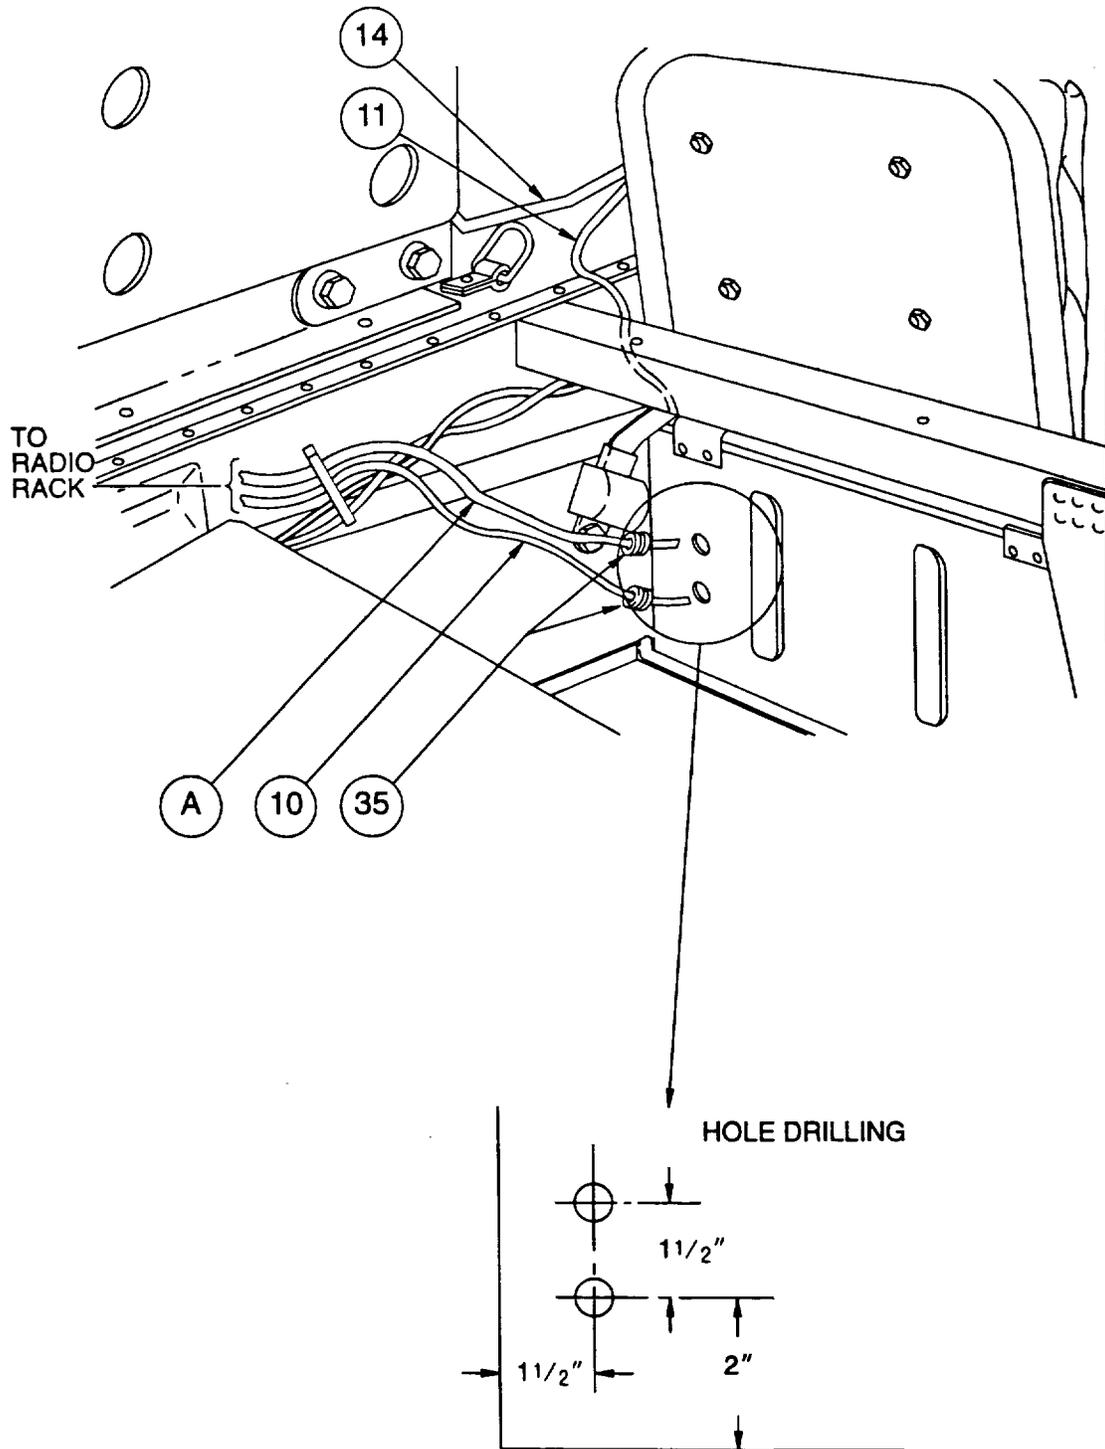
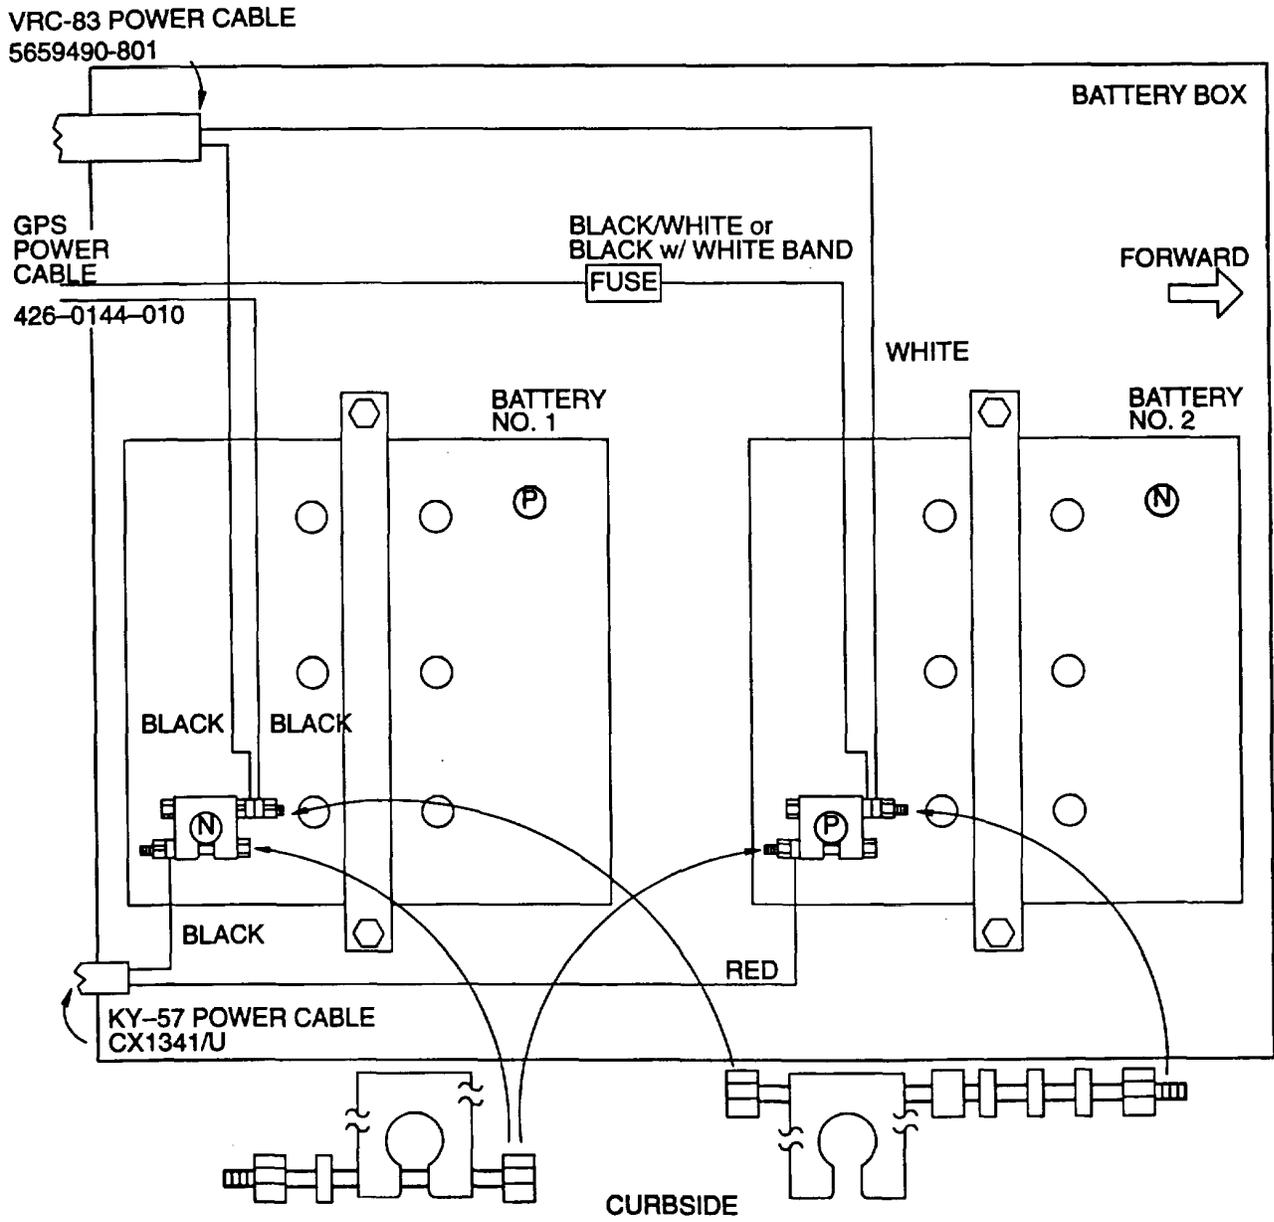

Figure 2-17. Battery Box Hole Drilling and Power Cables Routing
Figure 2-18. Battery Power Cables Wiring Connections
The battery box may not have the required number of openings for the installation of the AN/VRC-83(V)3 power cable and the KY-57 power cable. Refer to Figure 2-17. If the location shown does not have two openings or has none, provide the holes at the location shown using the hole drilling diagram. Use a 7/8-inch hole saw drill to make both openings. These holes will provide access to the battery box for the AN/VRC-83(V)3 power cable (A) and the KY-57 power cable (10). The AN/PSN-11 external power cable (11) is routed to the batteries via an opening between the battery box top cover and the corner of the battery box. The drilled holes are grommeted (35).
2-17.3.2 Installation. Refer to Figure 2-17. After the cable is cut to the eight foot length and the new spade lugs installed, the plug connector end is placed in the area on the radio rack where AN/VRC-83(V)3 the will be mounted. Leave a minimum of 1 foot cable slack at the location. The cable is then routed with the KY-57 power cable to the curbside platform location where they are tie wrapped to the existing vehicle cable run. At the battery box location, the cable is routed via a grommeted hole to the battery. Refer to Figure 2-18 for the cable connections to the battery.
2-17.3 KY-57 Power Cable Installation (Refer to Figure 2-17).
The KY-57 power cable (10) supplied is 18 feet long. It is not recommended that this cable be cut to a shorter length for this installation. In this application an 8-foot length would be sufficient. The cable connector end is placed in the KY-57 radio rack mount location. Leave a minimum of 1-foot cable slack at the location. The cable is routed with the AN/VRC-83(V)3 power cable W1 to the battery box location. At the battery box, the cable is routed via a grommeted hole to the batteries. Refer to Figure 2-18 for the cable connections to the battery. Excess cable is looped, tie wrapped, then stored under the radio rack shelf.
Refer to Figures 2-17 and 2-19. After the AN/PSN-11 external power cable (11) connector is located at the AN/PSN-11 mount base location, the lug terminal end is routed to the battery box location, under the curbside heat shield. The cable is routed to the battery through an opening in the upper left corner of the battery case. Excess cable is looped and tie wrapped, then stored in the battery box. Refer to Figure 2-18 for the cable connections to the batteries.